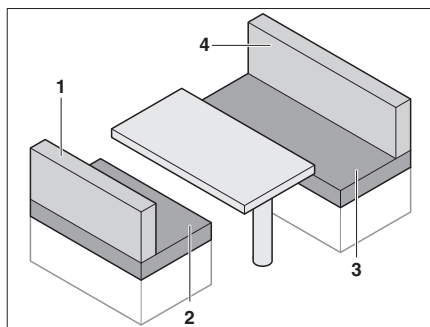

Fig. 72 Prior to conversion
- Remove the back cushions (Fig. 72,1 and 4).